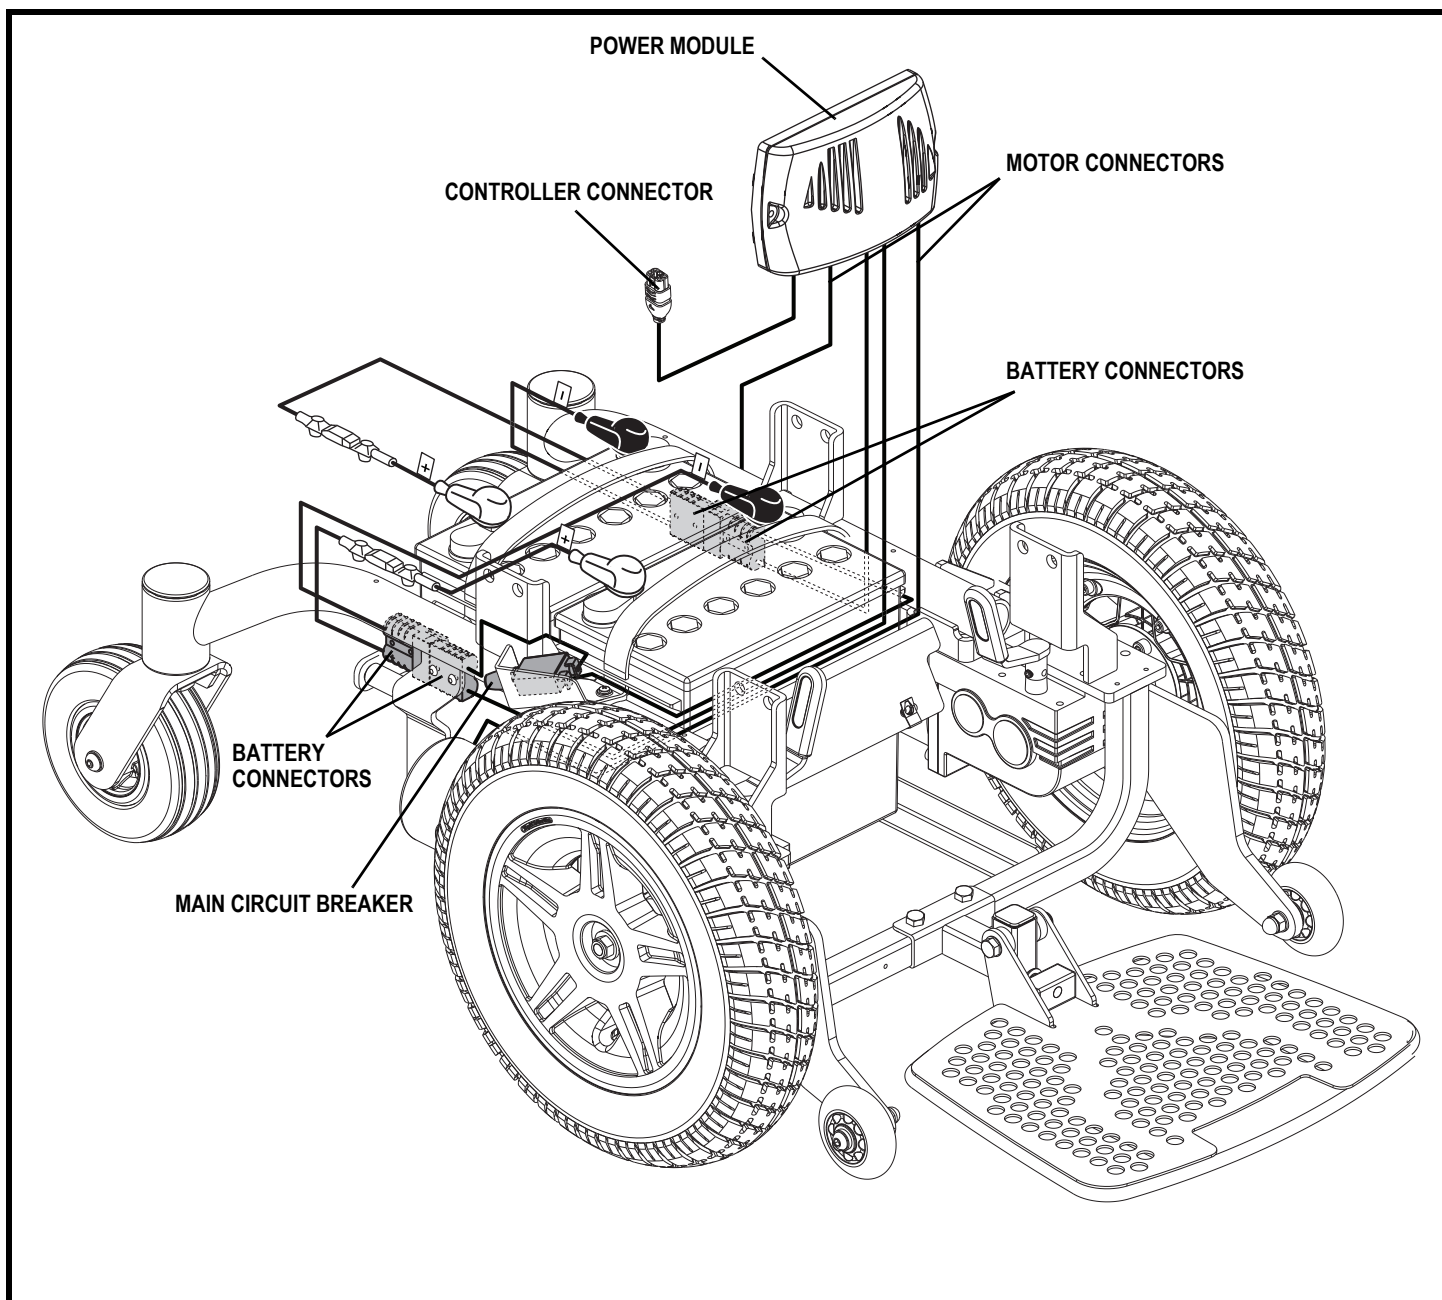

Figure 3. Jazzy Elite Series Electrical Components
The electrical components are located either on or inside the power base. The main circuit breaker is located on the right side of the power base. The power module is located under the front cover. See figure 3.
**Main Circuit Breaker:** The main circuit breaker is a safety feature built into your power chair. When the batteries and the motors are heavily strained (e.g., from excessive loads), the main circuit breaker trips to prevent damage to the motors and the electronics. If the circuit trips, allow your power chair to “rest” for approximately one minute. Next, push in the circuit breaker button, turn on the controller, and continue normal operation. If the main circuit breaker continues to trip repeatedly, contact your authorized Pride Provider. See figure 3.
5. Plug the controller connector into the front of the power base. See figure 3.
3. Unplug the controller connector(s) from the power base. See figure 3.